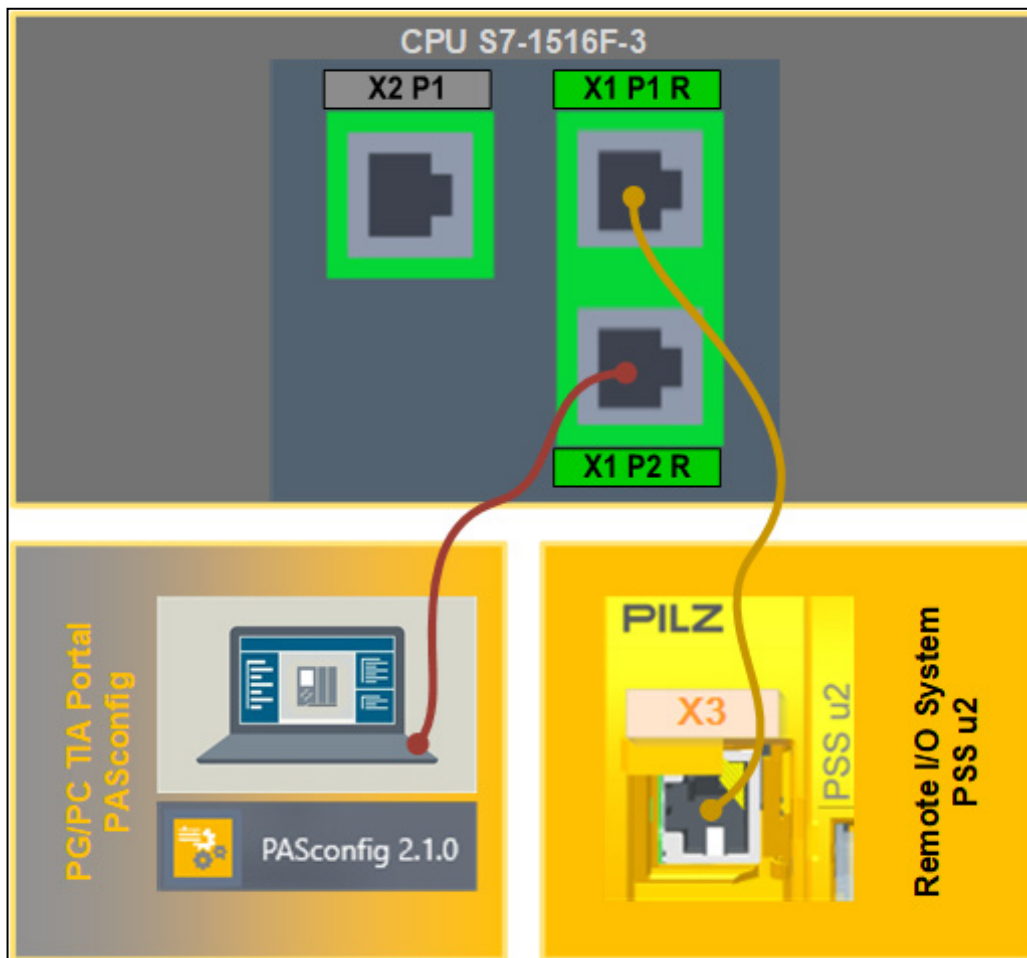

Figure 16: Application – Wiring of Ethernet connections (schematic)
- ▶ Connect the S7-CPU and the I/O system in accordance with Figure 16 Application – Wiring of Ethernet connections \(schematic\) [22]: